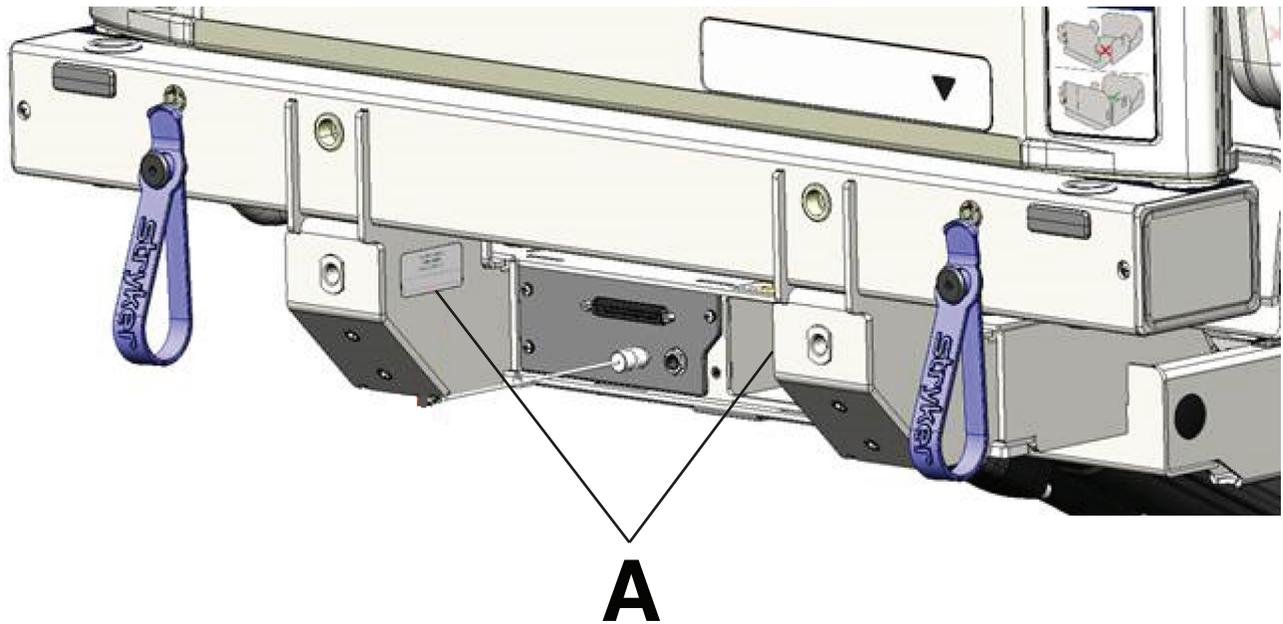

Figure 1 – Serial number location-operator view
You can find the serial number (A) below the headboard at the head of the bed (Figure 1).